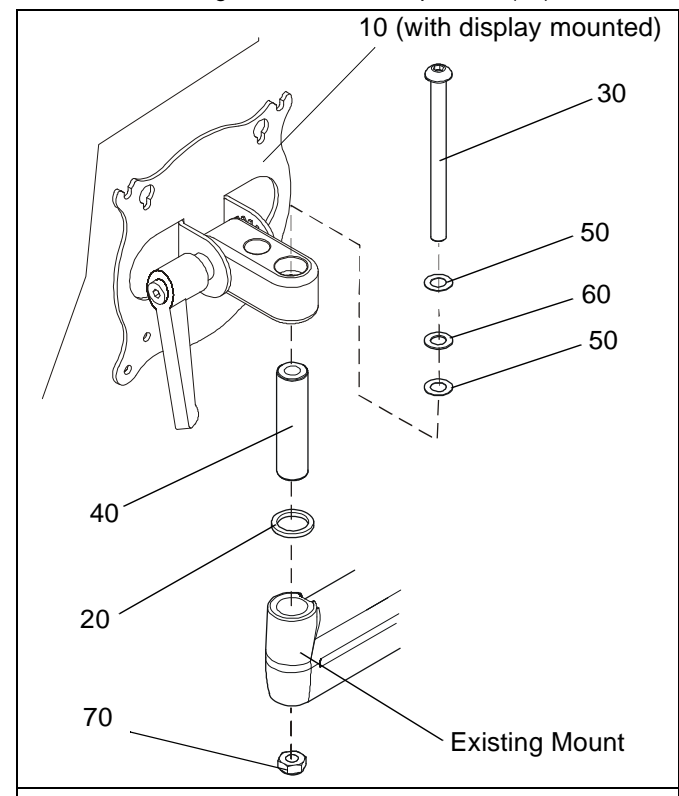

Figure 5
1. Place one UHMW washer (20) into recessed seat in existing mount. (See Figure 5)
2. Insert pivot pin (40) through UHMW washer (20) and into existing mount. (See Figure 5)
3. Assemble two flat washers (50) to one button head cap screw (30). (See Figure 5)
4. Align mounting hole in extreme pitch mechanism (10) with mounting hole in mount. (See Figure 5)
5. Insert locknut (70) up into bottom mounting hole in mount. (See Figure 5)
6. Insert button head cap screw (30) with washers (50 and 60) down through pivot pin (40) in mount and thread into locknut (70). (See Figure 5)